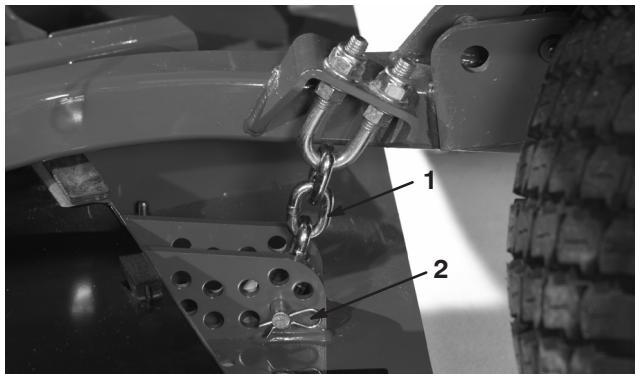

Figure 4
- Slightly raise deck to remove tension from the height-of-cut chains. Remove hair pin cotters and clevis pins securing height-of-cut chains to rear of deck (Fig. 4). Retain hair pin cotters and clevis pins for re-installation of front deck